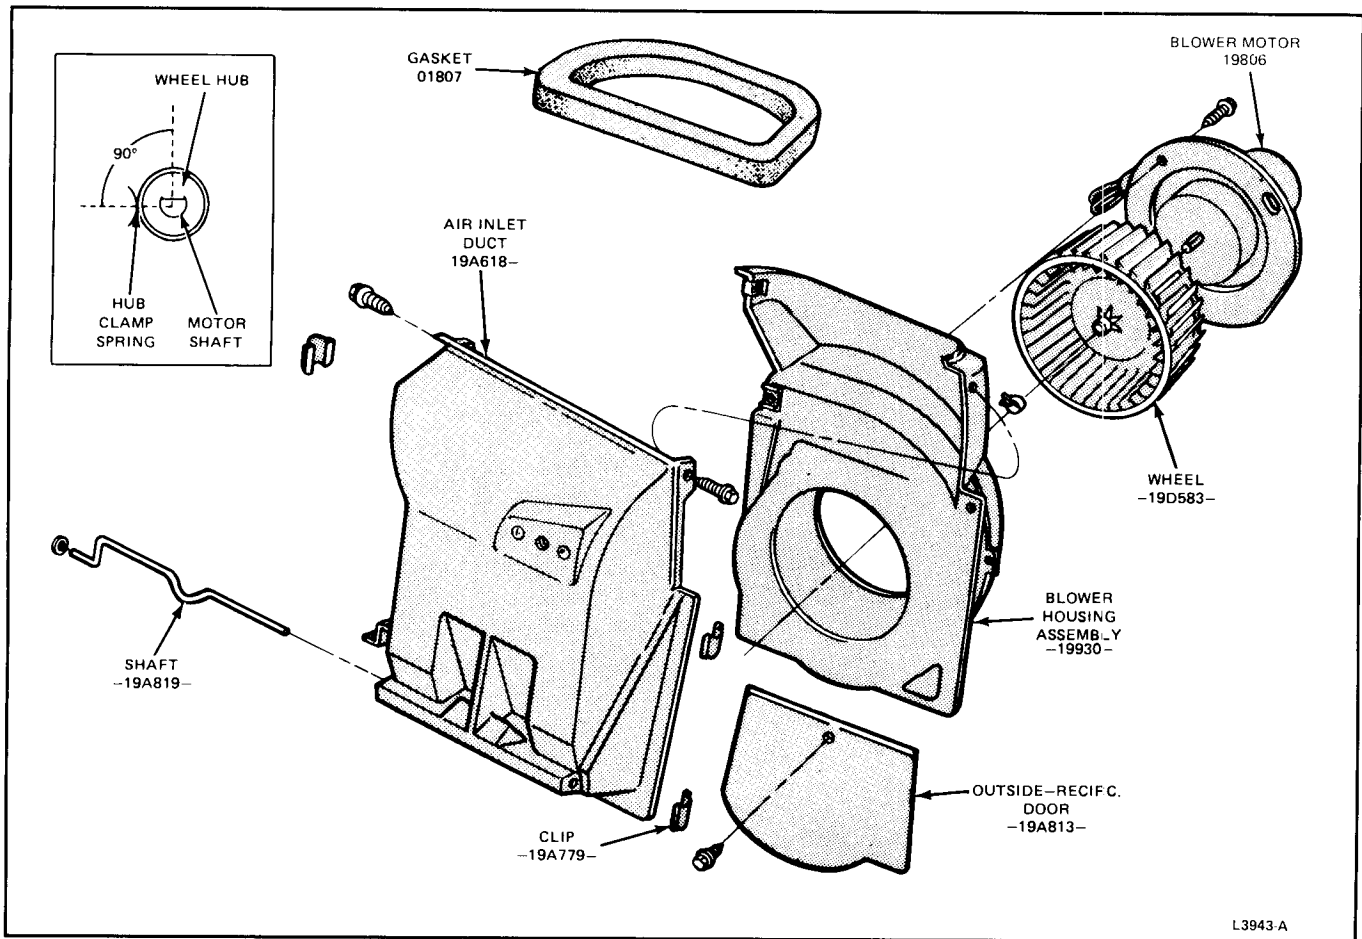

FIG. 24 Air Inlet Duct and Blower Housing Assembly—Disassembled
2. Remove four blower motor mounting plate screws and remove the blower motor and wheel assembly from the blower housing (Fig. 24). **Do not remove the mounting plate from the motor.**
1. Install the blower wheel on the blower motor shaft until the outside edge of the blower wheel is 3-1/2 to 3-5/8 inches from the blower motor mounting plate. Then, install the new retaining clip on the blower wheel (Fig. 24).
2. Remove three snap clips and two screws attaching the air inlet duct to the blower housing. Then, separate the duct from the blower housing (Fig. 24).